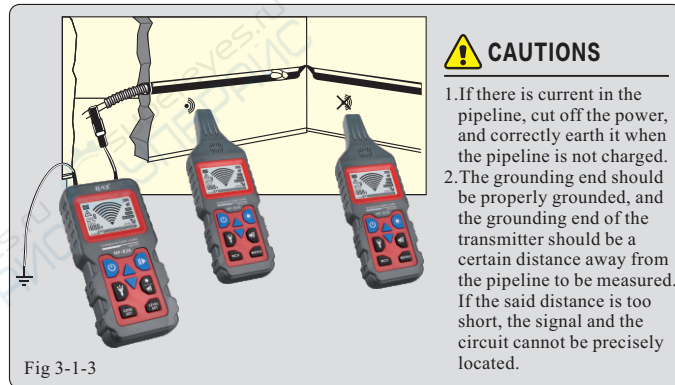

Fig 3-1-3
- ※ The transmitter is connected to a metal helical tube (metal tube or flexible conduit) and an auxiliary ground wire, as shown in Fig.3-1-3;